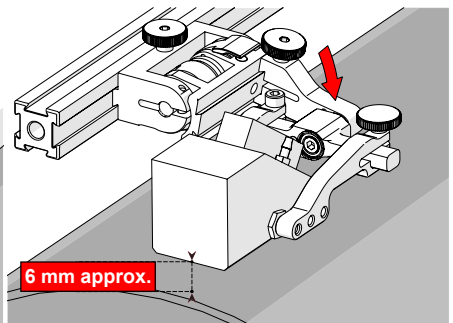

Fig. 110 - Lower to scanning surface
2. Push the probe holder yoke down toward the inspection surface until the wedge is approximately 6 mm ( $\frac{1}{4}$  in) from the inspection surface (Fig. 110).